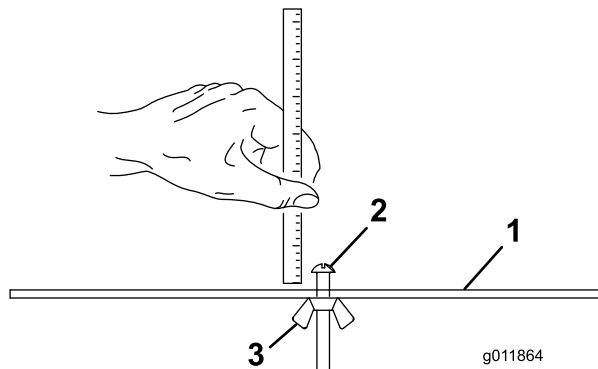

Figure 17
2. Loosen the nut on the gauge bar (Figure 17) and set the adjusting screw to the desired height of cut.